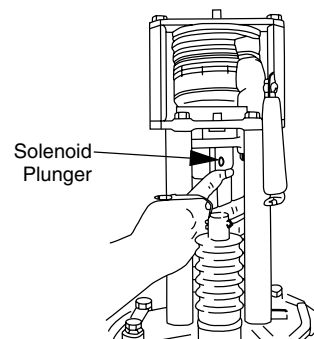

Figure 12. Checking solenoid plunger.
1. Place the yellow operating handle into the closed position, hold contacts open with one hand, and lift up the plunger rod assembly. The plunger should move freely without sticking or binding. This can also be done with the contact box removed. See Figure 12. If the plunger rod assembly does not move freely, check the plunger and solenoid frame for rough edges or burrs; use crocus cloth to remove and retest.